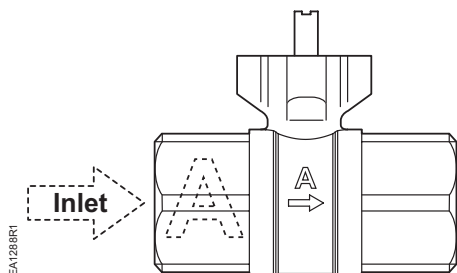

Figure 4.
- a. **Non-installed Valves** – Verify that the ball valve is open by looking into the "A" (inlet) port to see if it is open. (See Figure 4.)
- a. **Non-installed valves** - visually verify that the ball valve is closed by looking into the "A" (inlet) port. See Figure 4.